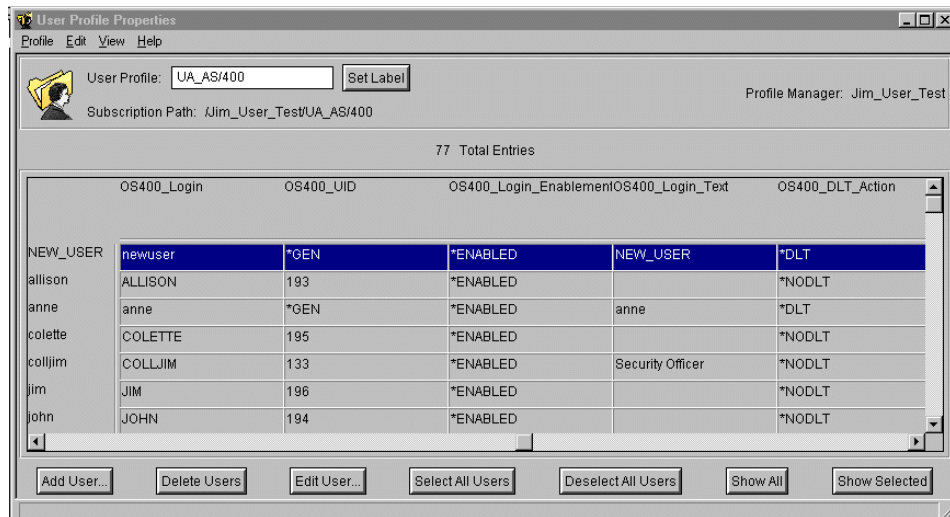

Figure 310. Viewing AS/400 user profiles
- To save your new profile, click the **Add & Close** button. The new profile definition will appear in the User Profile Properties screen as shown in Figure 310 on page 477.